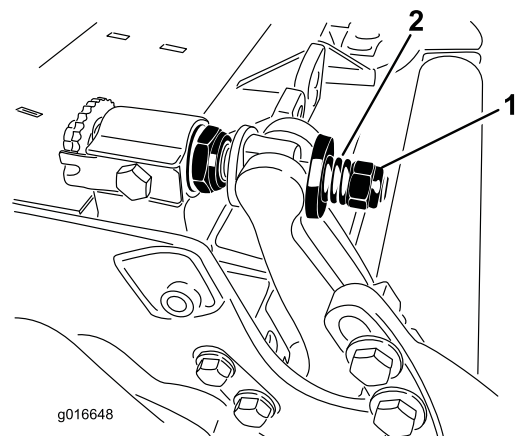

Figure 31
3. Tighten locknuts equally on each side until the outer steel washers cannot be rotated by hand. Then loosen the locknuts until the outer steel washers just rotate by hand, yet bedbar end play is removed. (Figure 31).
10. Tighten the nut on each bedbar adjuster assembly until the compression spring is fully compressed, then loosen nut 1/2 turn (Figure 31).